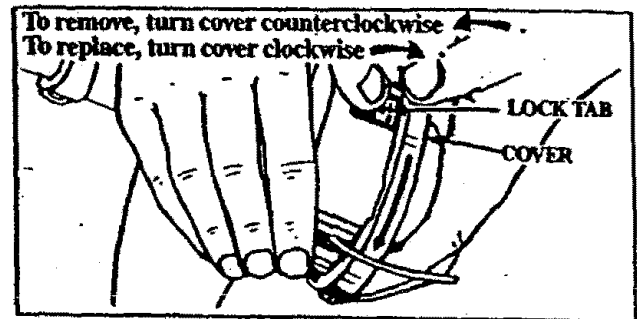

Figure 20
- 3.) Turn Cover clockwise. Figure 20.